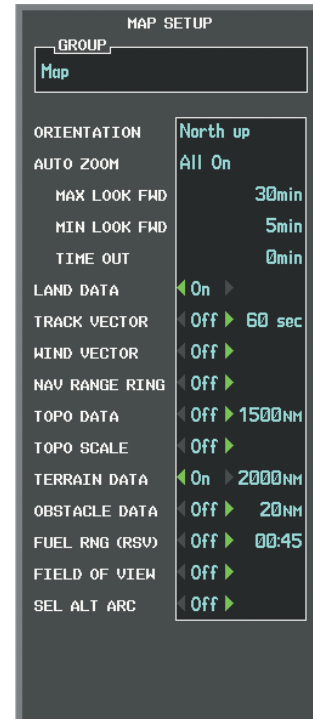

Figure 6-145 Navigation Map Page Setup Menu, Map Group
- 5) Turn the large **FMS** Knob or press the **ENT** Key to scroll through product selections (Figure 6-145).